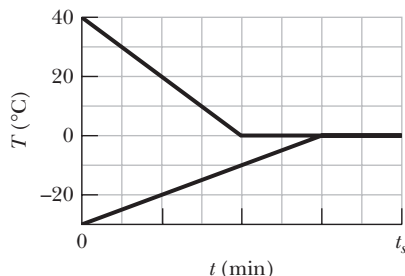

Fig. 18-34 Problem 38.
••38 A 0.530 kg sample of liquid water and a sample of ice are placed in a thermally insulated container. The container also contains a device that transfers energy as heat from the liquid water to the ice at a constant rate P , until thermal equilibrium is reached. The temperatures T of the liquid water and the ice are given in Fig. 18-34 as functions of time t ; the horizontal scale is set by $t_s = 80.0$ min. (a) What is rate P ? (b) What is the initial mass of the ice in the container? (c) When thermal equilibrium is reached, what is the mass of the ice produced in this process?